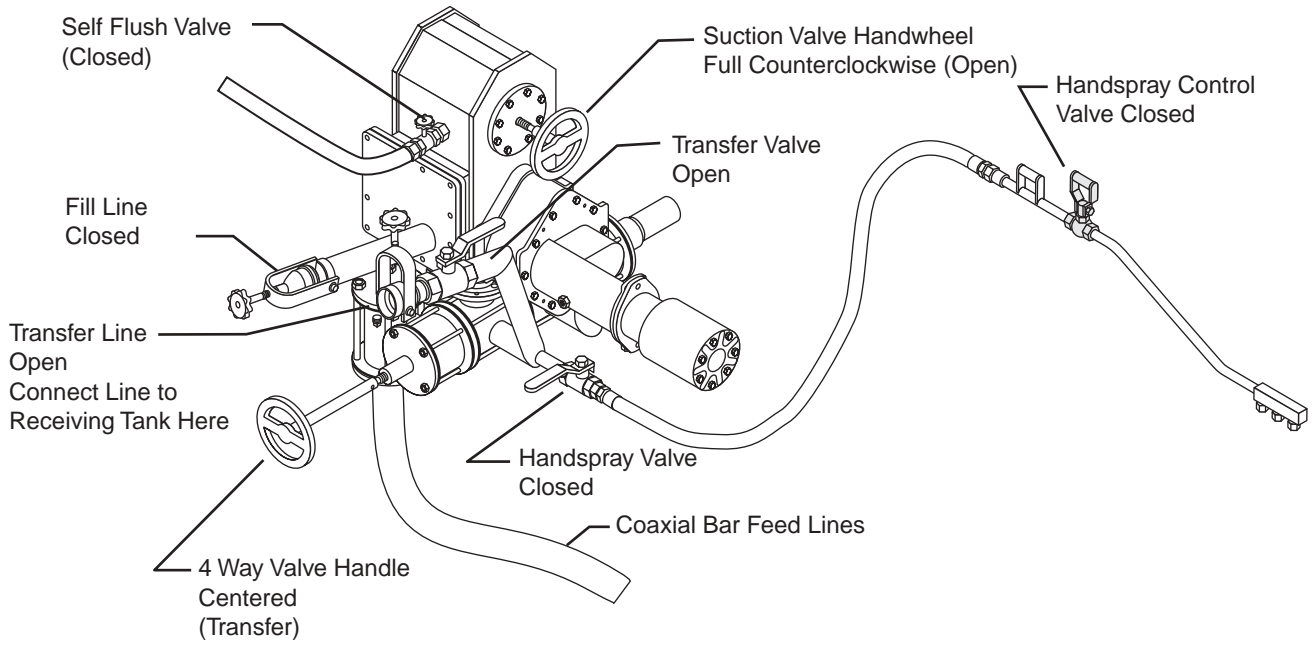

Figure 11. Valve Positions for Pump Off
2. Set all of the valve positions (see Figure 11).